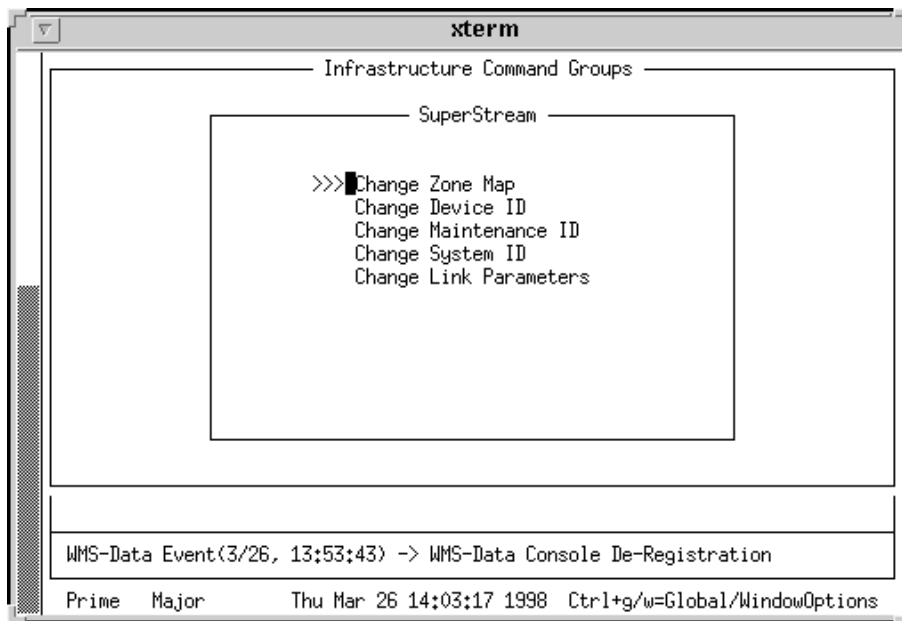

Figure 4-2: SuperStream Menu—Change Zone Map
1. From the SuperStream menu, use the <tab> to position the cursor to the left of the listing Change Zone Map and press: <Return> (see Figure 4-2).